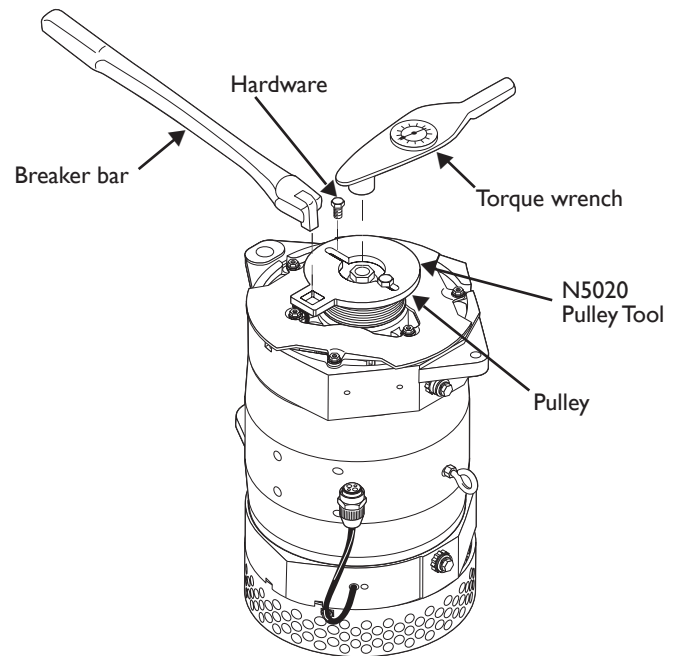

Figure 1b— Pulley Assembly Using Pulley Tool
6. Fasten with hardened washer and pulley nut. Torque nut to 162.7 Nm/120 lb. ft. The N5020 pulley tool can be used to properly torque the pulley. See Figure 1b. If tool is not available, hold pulley in table vise to torque pulley nut.